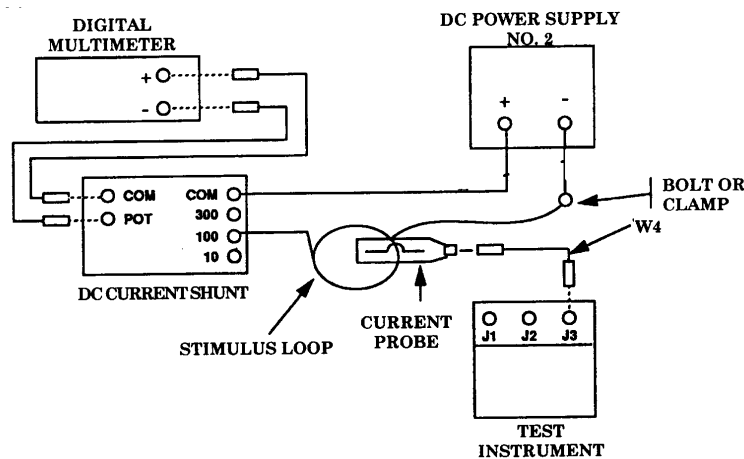

Figure 2. VTM dc current (high) - equipment setup.
(11) Connect equipment as shown in figure 2.
Fabricate a current stimulus loop as shown in figure 2. The loop design should be 20 turns of No. 10 insulated copper wire with a bundle diameter of the turns being no more than 1 inch. The inside diameter of the loop should be 6 inches \pm 1 inch. Care should be taken to ensure that the loop does not overheat.